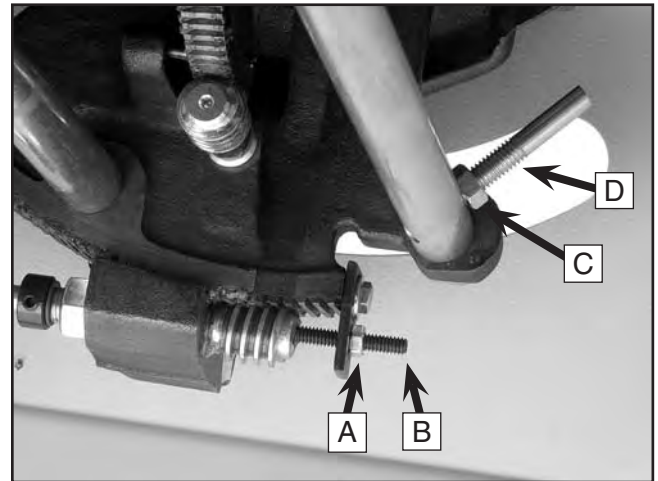

Figure 65. 90° and 45° stop bolt adjustments.
6. If a gap exists at either the top or bottom of the square, loosen the lock nut (A) and adjustment bolt (B) shown in **Figure 65**.
11. If variations exist, loosen the lock nut (C) and adjust the stop bolt (D) (**Figure 65**) until the blade and square match.